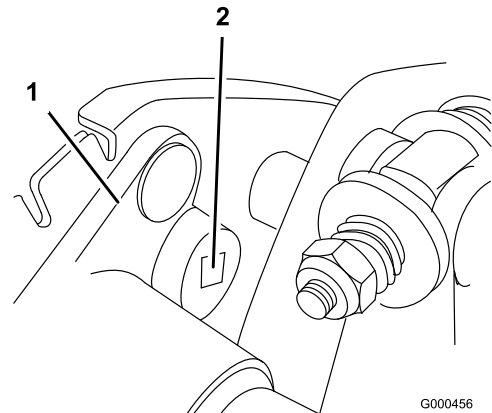

Figure 36
- B. Using a $3/8$ inch drive torque wrench, rotate the bearing housing with 35-40 in.-lb. of torque to set belt tension (Figure 36)